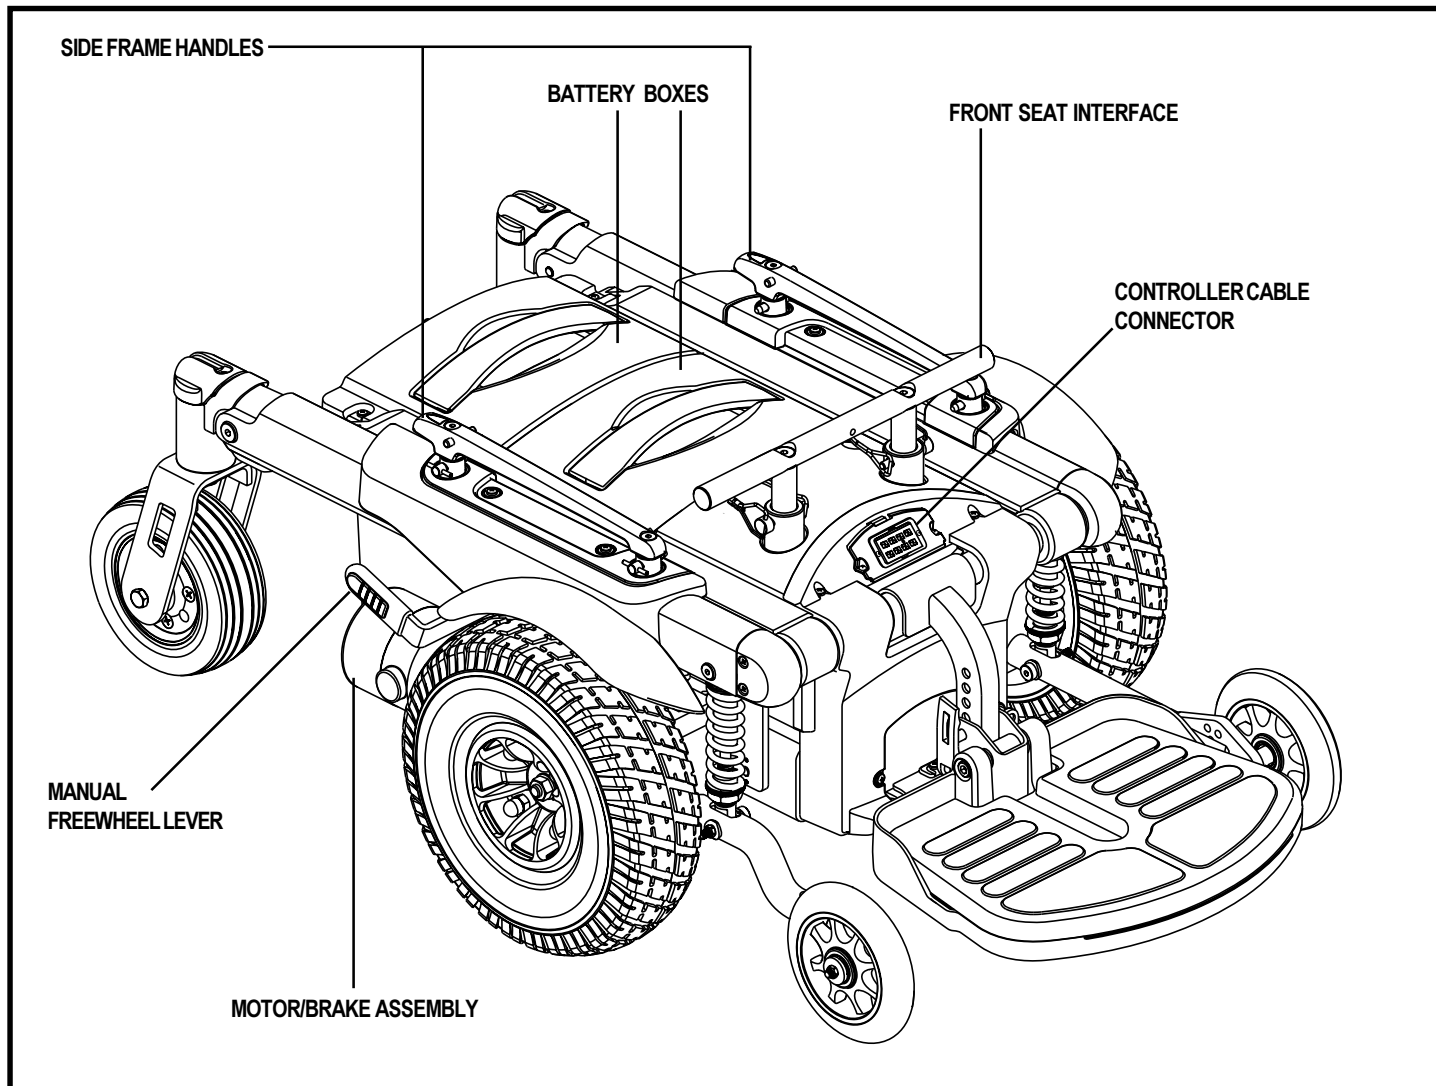

Figure 6. The Quantum 1107 Power Base
The electrical components consist of the controller assembly, the batteries, and the motors. The batteries, motors, and controller power module (if equipped) are located on the power base assembly. See figures 6 and 7. The controller is located on the seat assembly. Connectivity between the controller and the motors, the batteries, and the battery charger is provided by one or more wiring harnesses.
The Quantum 1107 has a manual freewheel lever on each motor. See figure 6. Manual freewheel levers enable you to disengage the drive motors from the gearboxes and maneuver the chair manually.
2. Disconnect the controller. See figure 6.
2. Disconnect the controller from the power base. See figure 6.